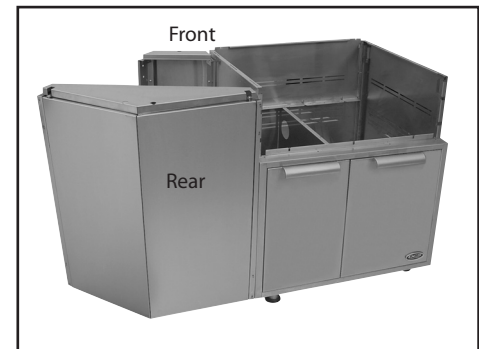

Fig. 19
3. Place the Bend Unit on top of the lifters, adjacent to the CAD cart. To ensure proper alignment, make sure the front of the cart is flush with the wall or door of the Bend Unit (Fig. 19).